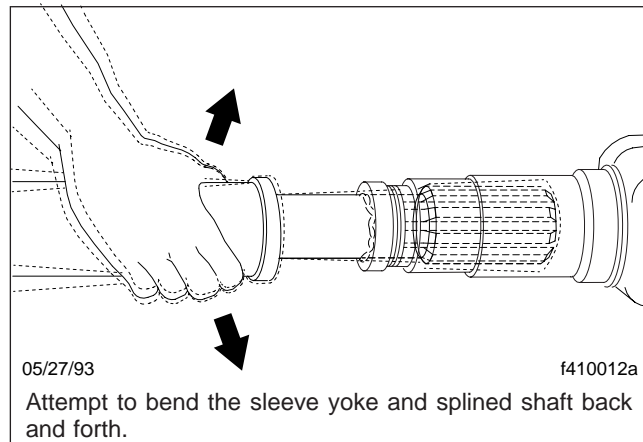

Fig. 2, Slip-Joint Spline Wear Checking
- Check the slip-joints for spline wear by trying to bend the sleeve-yoke and splined shaft back and forth, see **Fig. 2**. If looseness is greater than